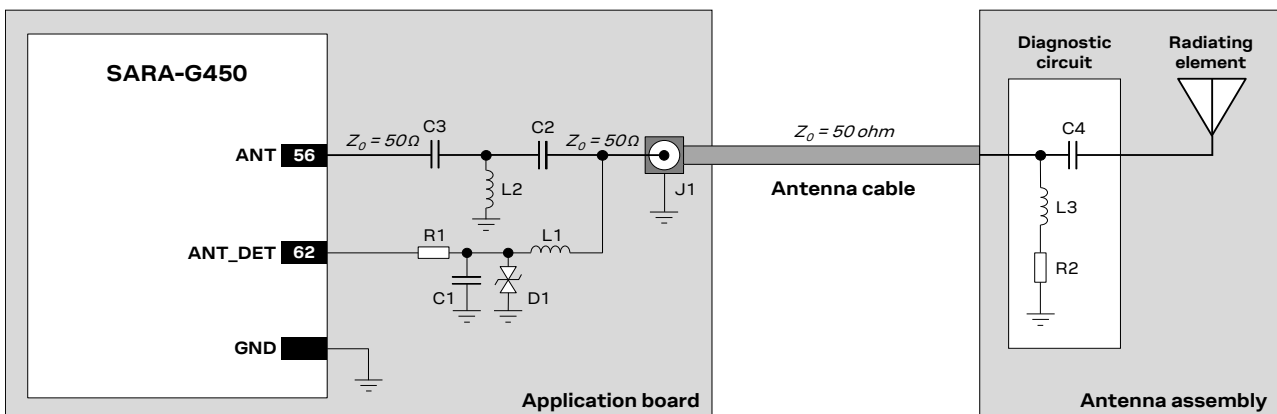
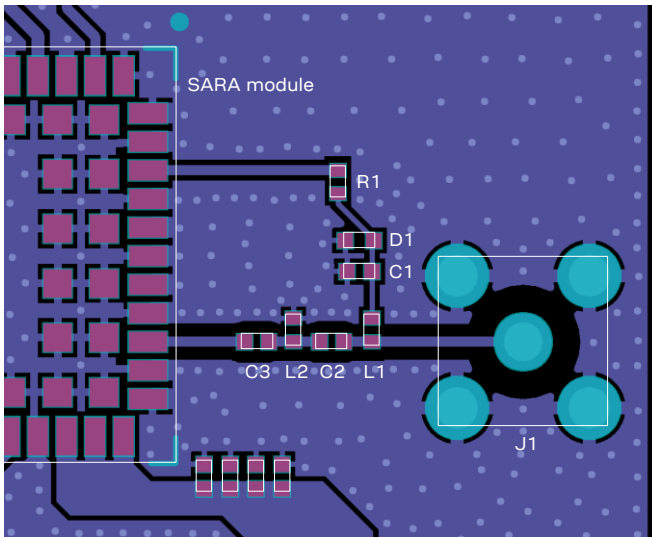

Figure 41: Suggested schematic for antenna detection circuit on application PCB and diagnostic circuit on antenna assembly
Figure 42: Suggested layout for antenna detection circuit on application board
Figure 41 and Table 27 describe the recommended schematic and components for the antenna detection circuit to be provided on the application board for the diagnostic circuit that must be provided on the antenna assembly to achieve antenna detection functionality.
The antenna detection circuit and diagnostic circuit suggested in Figure 41 and Table 27 are explained below:
- Additional components (R1, C1 and D1 in Figure 41) are needed at the **ANT_DET** pin as ESD protection.
- Additional high pass filter (C3 and L2 in Figure 41) is provided at the **ANT** pin as ESD immunity improvement (not strictly required).
The DC impedance at RF port for some antennas may be a DC open (e.g. linear monopole) or a DC short to reference GND (e.g. PIFA antenna). For those antennas, without the diagnostic circuit of Figure 41, the measured DC resistance is always at the limits of the measurement range (respectively open or short), and there is no means to distinguish between a defect on the antenna path with similar characteristics (respectively: removal of linear antenna or RF cable shorted to GND for a PIFA antenna).
Figure 42 describes the recommended layout for the antenna detection circuit to be provided on the application board to achieve antenna detection functionality, implementing the recommended schematic described in the previous Figure 41 and Table 27.
The antenna detection circuit layout suggested in Figure 42 is explained below: